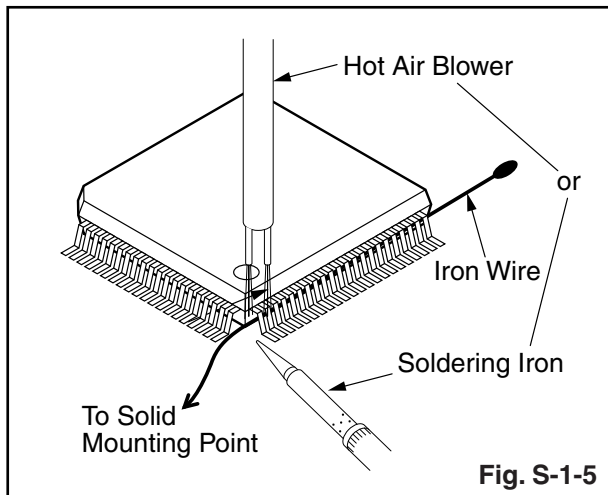

Fig. S-1-5
- (2) Affix the wire to a workbench or solid mounting point, as shown in Fig. S-1-5.
- (3) While heating the pins using a fine tip soldering iron or hot air blower, pull up the wire as the solder melts so as to lift the IC leads from the CBA contact pads as shown in Fig. S-1-5.